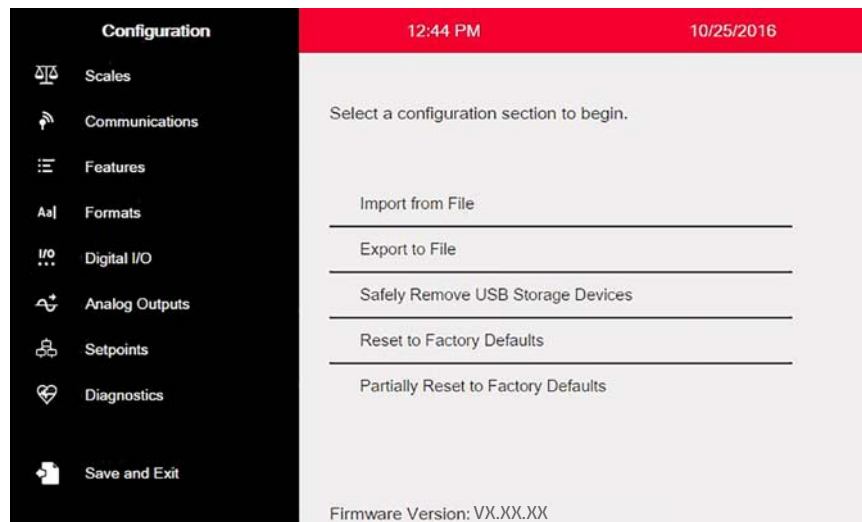

Figure 13-1. Configuration Main Menu
2. Press *Import from File*. See Figure 13-1. The Import Screen (Figure 13-2) will display. Load both the .rev and .cod files to use the built-in application programs.
4. Select *Import from File* (see Figure 13-1). The Import Screen (Figure 13-2) will display.
2. Press *Import from File*, see Figure 13-1. The Import Screen (Figure 13-2) will display.
2. Press *Import from File* from above diagram, see Figure 13-1. The Import Screen (Figure 13-2) will display.